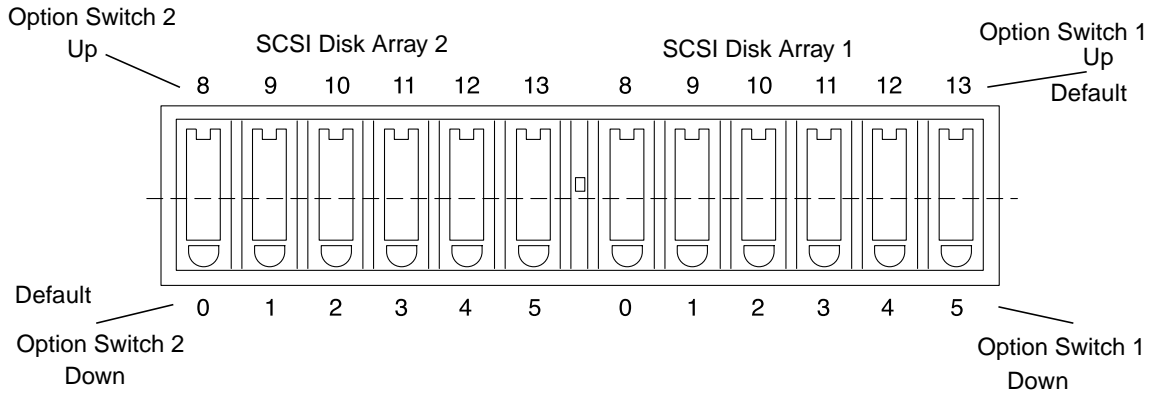
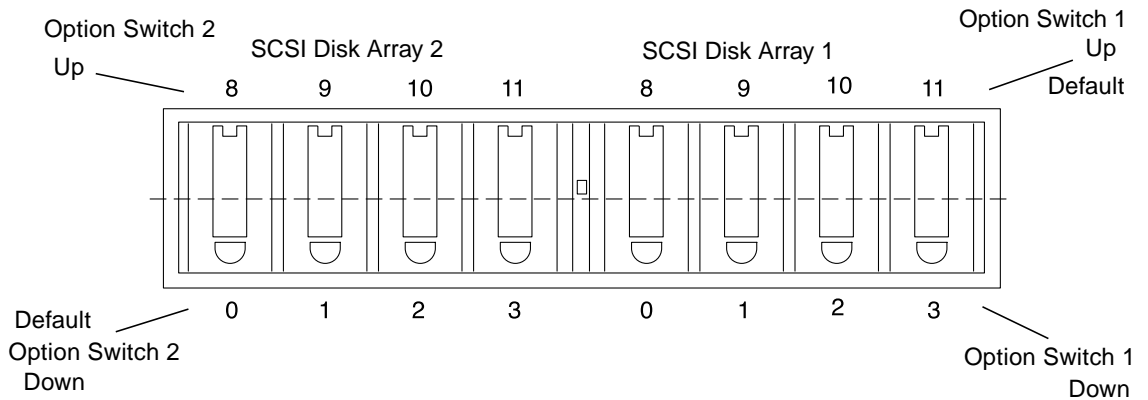

FIGURE 2-7 Sun StorEdge D1000 SCSI Disk ID Address Assignment —12-drive system
FIGURE 2-8 Sun StorEdge D1000 SCSI Disk ID Address Assignment —8-drive system
1. Disk Array 1 ID (FIGURE 2-7 for the 12-slot and FIGURE 2-8 for the 8-slot)
2. Disk Array 2 ID (FIGURE 2-7 for the 12-slot and FIGURE 2-8 for the 8-slot)